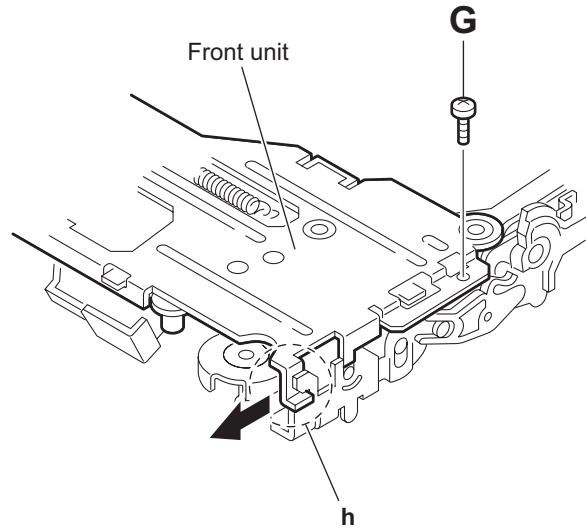

Fig.11
- Remove the screw **G** attaching the front unit on the top of the body. (See Fig.11.)
- Move the front unit toward the front to release joint **h**, and release two joints **i** and **j** on the right side of the chassis base assembly. Then remove the front unit upward. (See Figs.11 and 12.)